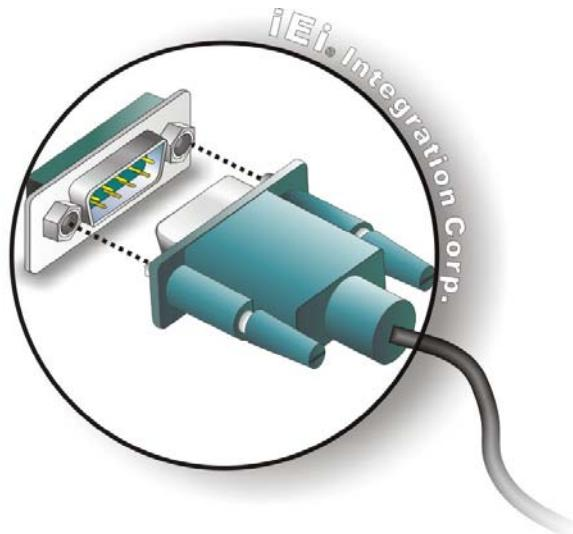

Figure 3-17: Serial Device Connector
Step 2: Insert the serial connector. Insert the DB-9 connector of a serial device into the DB-9 connector on the external peripheral interface. See **Figure 3-17**.